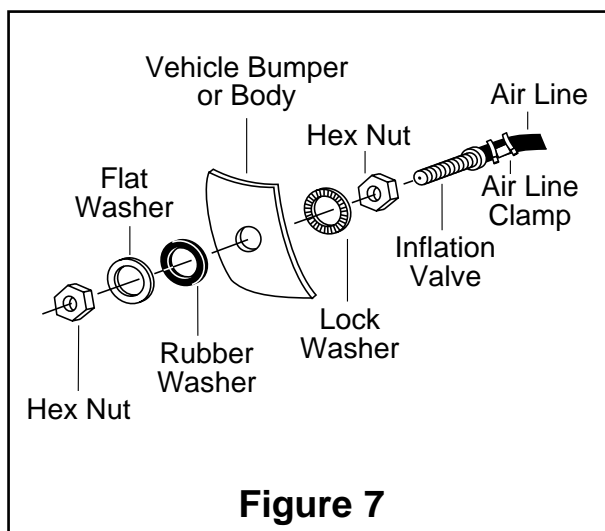

Figure 7
- J. Drill a 5/16" hole for inflation valve and mount as in illustration (Figure 7). Rubber washer is for outside weather seal.
- E. Drill 5/16" hole for inflating valves and mount as illustrated. Rubber washer is for outside weather seal (Figure 7).